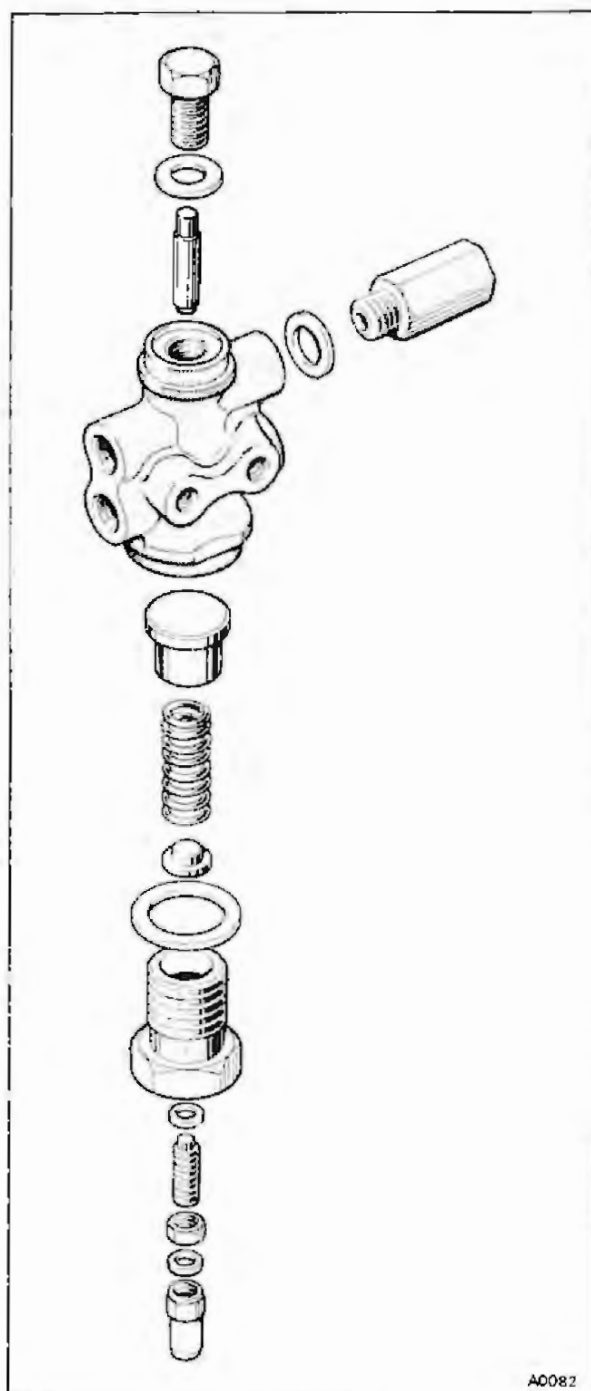

Fig. 4 Adjustable Minimum Pressure Valve and Restrictor
- 10 Remove the domed nut (see fig. 3, item 8) from the underside of the minimum pressure valve. Slacken the lock-nut on the exposed Allen screw (see fig. 4) and either turn the Allen screw clockwise to increase the setting pressure or anti-clockwise to decrease the pressure.